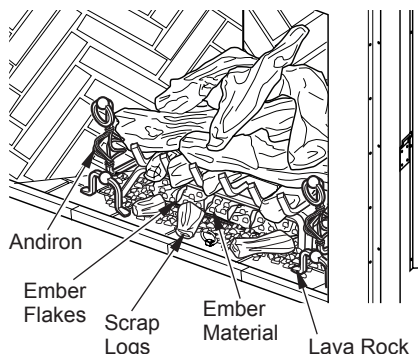

Figure 36 - Installing Floor Media
2. Pull glowing ember material apart into pieces no larger than a dime. Place these pieces loosely and sparingly directly onto exposed burner ports (Figure 36). This will create the glowing ember appearance as flame touches ember material. Do not block air slots by using too much ember material in one area. Do not block pilot ports with embers. It is not necessary to use all of the glowing ember material provided.
3. Place ember flakes around front and sides of burner and on burner ports (see Figure 36). This will create the glowing ember appearance as the flame touches the ember flakes. Do not block burner ports or pilot ports by overlapping ember flakes in one area. It is not necessary to use all ember material provided.
4. Place lava rock around base of burner. Make sure burner ports are not covered (see Figure 36).
5. Place scrap log pieces randomly as desired on fireplace hearth floor around base of log set (see Figure 36).
6. Place decorative andirons to the left and right of log set on the hearth floor. Grate does not attach to hearth assembly (see Figure 36).